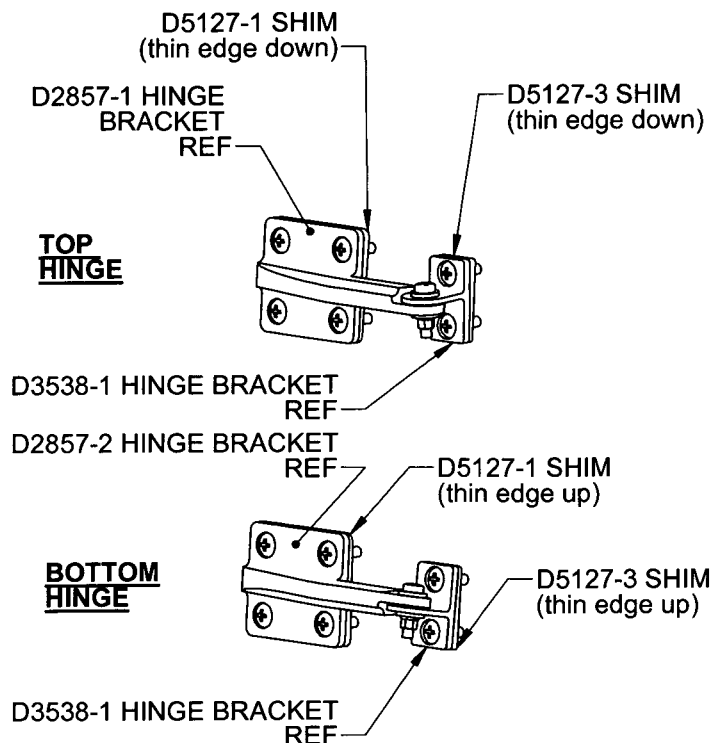

FIGURE 3: DSI 9701-011 HINGE KIT ASSY
- 2.8 Re-install the D3186-3/4 Spacepod Door onto the Spacepod per Section 52.4 of ICA-D350-600. See Figure 3 for reference.